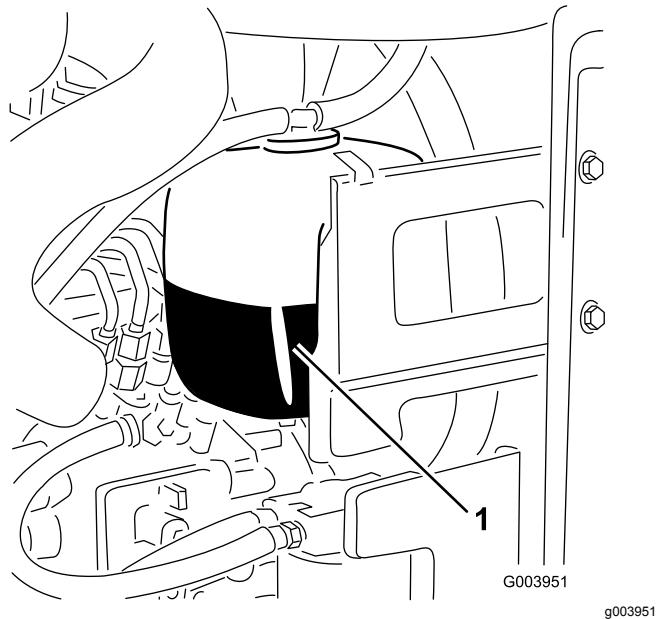

Figure 58
1. Check the level of coolant in the expansion tank (Figure 58).